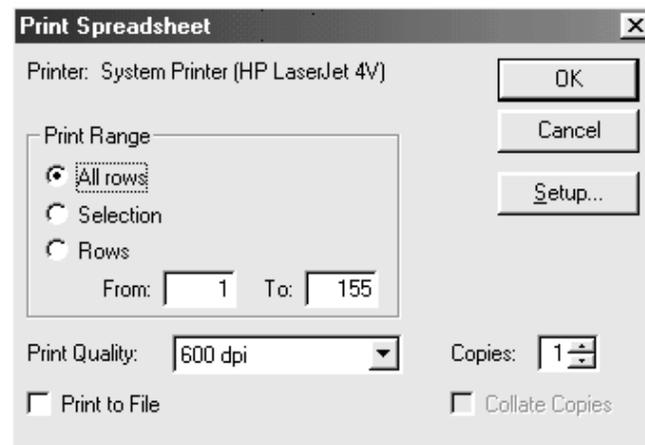

Figure 6-2. *Print DataSheet Dialog Box*
5. Choose FILE... PRINT... from the Menu bar to display the Print DataSheet dialog box (see Figure 6-2).